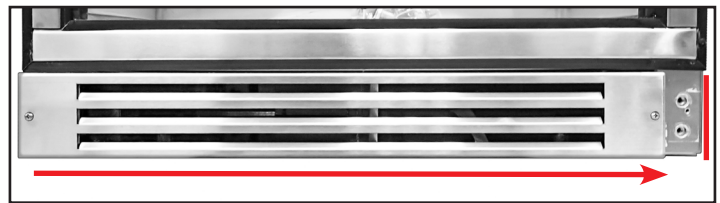

Fig. 3. TUC/TWT-24/24F ONLY: Move the front grill to the opposite side.
2. With a 7/16" socket, move the bolts (fig. 3) to the opposite side.